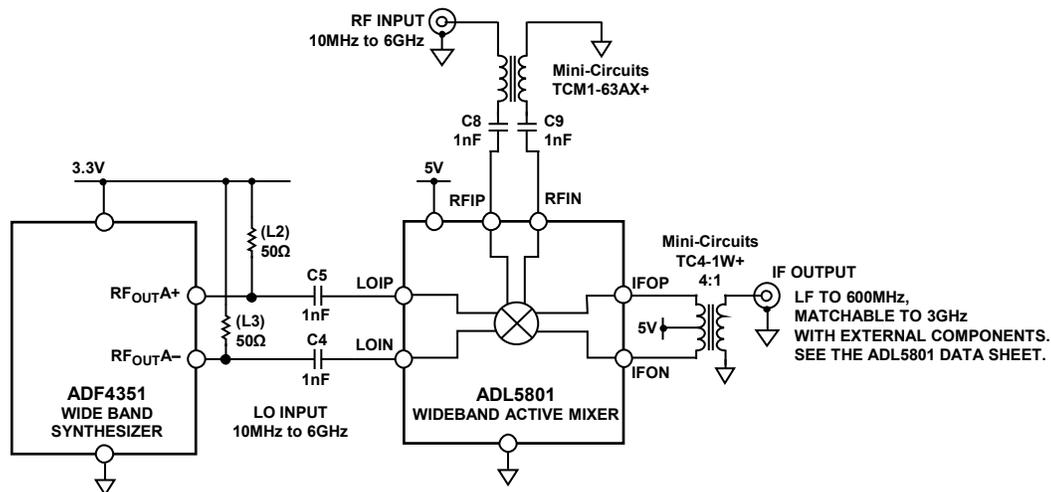
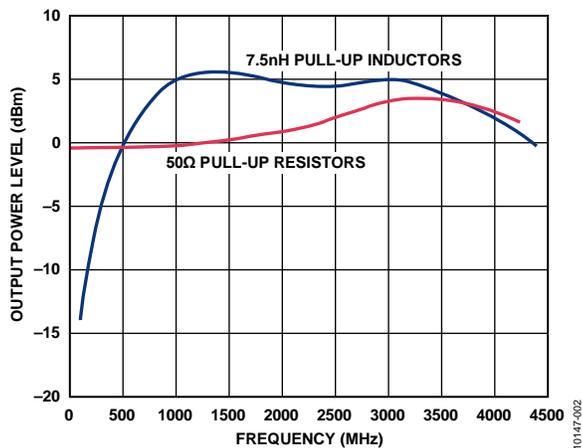

Figure 1. Broadband Interface Between ADF4351 PLL with Integrated VCO and ADL5801 Broadband Active Mixer (Simplified Schematic Showing Only Interface Details)
Figure 2. Comparison of the Power Level at the Output of the **ADF4351** with Resistive and Inductive Pull-up Networks
The circuit shown in Figure 1 is a 10 MHz to 6 GHz wideband active mixer with a direct interface to a frequency synthesizer-based low phase noise local oscillator (LO).
The **ADL5801** is a high linearity, double balanced, active mixer with an integrated LO buffer amplifier that supports RF frequencies from 10 MHz to 6000 MHz. The mixer has a bias adjust feature to optimize the input linearity, noise figure and dc operating current. The circuit shown in Figure 1 has a simple LO interface for applications that require broadband up or down conversion. The interface provides coverage for RF frequencies ranging from 35 MHz to 4400 MHz.
Normally, pull-up bias inductors are recommended at the output port of the **ADF4351**. This solution delivers higher output power but limits the frequency range of the device. The standard evaluation board is equipped with two 7.5 nH pull-up inductors, which is optimal for frequencies above 500 MHz. In the Figure 1 circuit, the bias inductors are replaced with two 50 Ω pull-up resistors to reduce the frequency dependence of the output interface. This change results in lower power delivered at the output; however, the **ADL5801** can tolerate this limitation since the device is specified to operate at LO drive levels as low as -10 dBm. Figure 2 is a comparison of the output power delivered by the device with resistive and inductive pull-up networks.